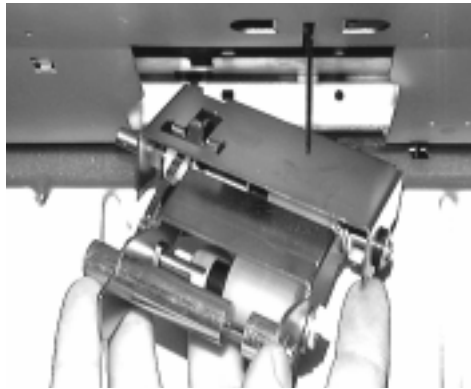

Figure D-8 Remove Upper Roller Assembly
Step 10 From the front of the HCI, gently pull out the upper roller assembly (Figure D-8.) Slide the assembly a little to the right before bringing it out of the HCI.